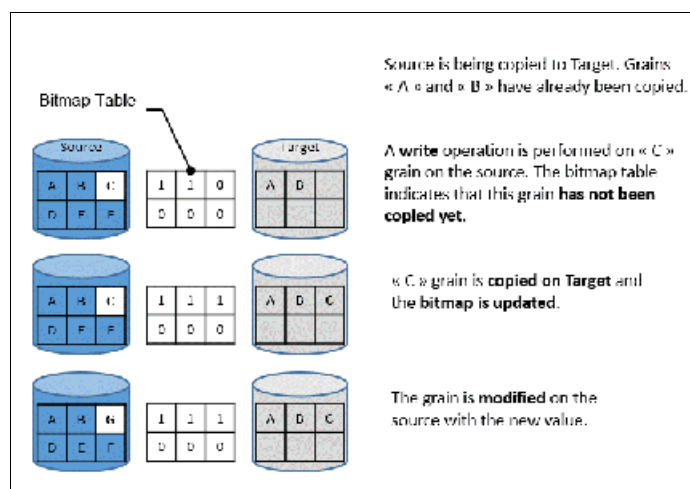

Figure 10-6 Modifying a non-copied grain on the source
- If the bitmap indicates that the grain is not yet copied, the grain is first copied on the target (CoW), the bitmap table is updated, and the grain is modified on the source, as shown in Figure 10-6. This behavior is true for standard pools in IBM Spectrum Virtualize release 8.4 or higher, or any pool type if the code version is lower than 8.4.